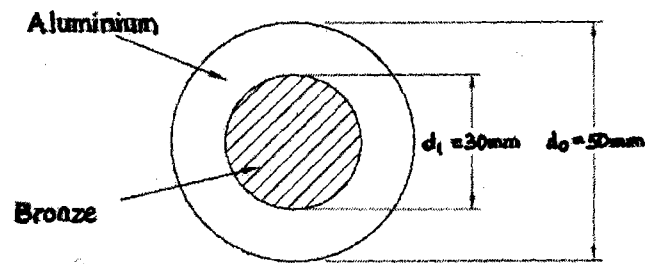

Figure 7/Gambarajah 7
7. (i) A bar with a composite cross section shown in **Figure 7** has its temperature raised by 30°C . If no slippage occurs between the two materials, determine the axial stress in each material. The properties of the material are: